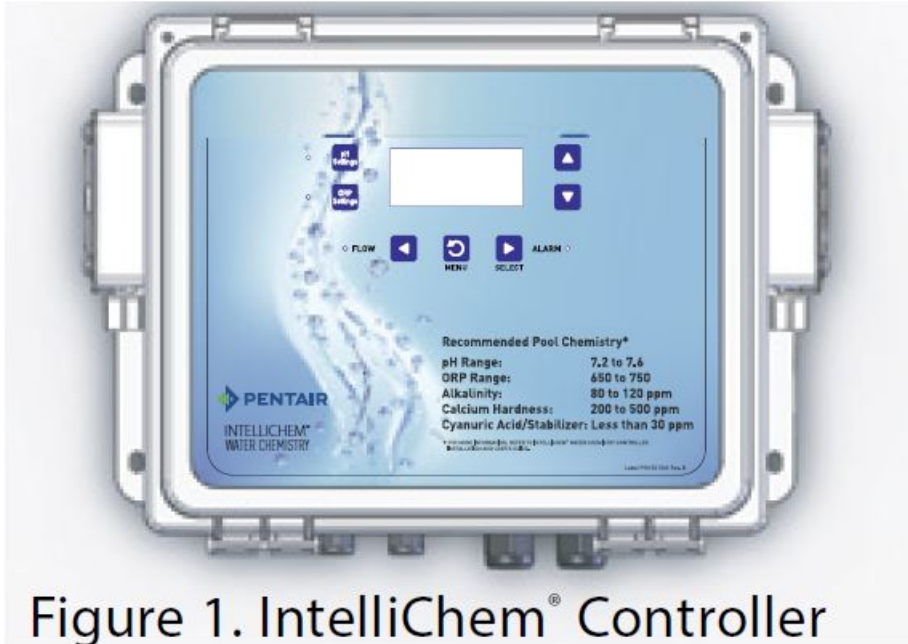

Figure 1. IntelliChem® Controller
1. Loosen the four screws securing the controller top cover. Open the top cover. See Figure 1.